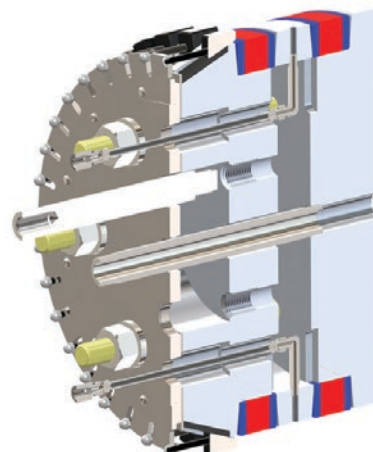

Figure 14: Inserting and Threading *Lifting Standoffs* in to the DBB Plug 14"+
- On GripSafe ST DBB 14"+, the internal threads for the lifting device are located between the *back pressure Vent Port*(19) and *Vent Hose Ports*(2) (see **Figure 14**).
- Insert the *Lifting Standoffs*(23) into the two holes through the *Spring Plate Hub*(20). Hand tighten both *Lifting Standoffs*(23) until they bottom out (see **Figure 14**).